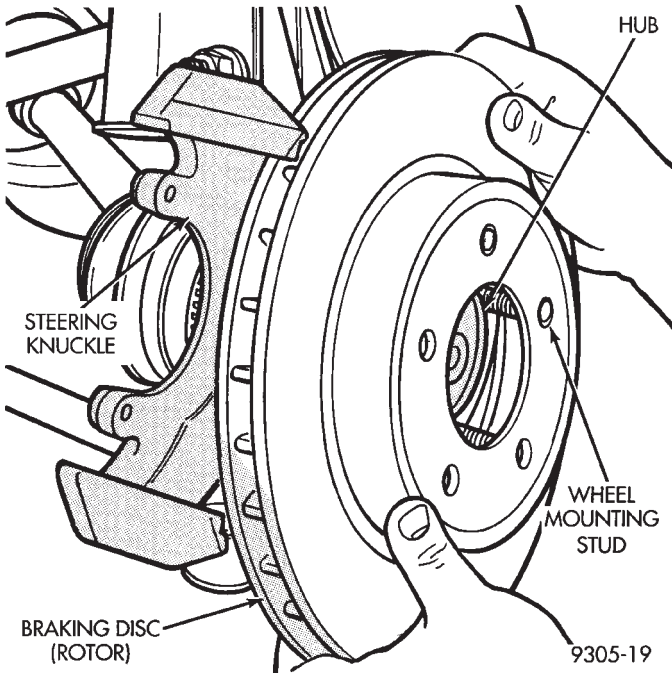

Fig. 18 Installing Braking Disc
(10) Install the braking disk on the hub and bearing assembly (Fig. 18).